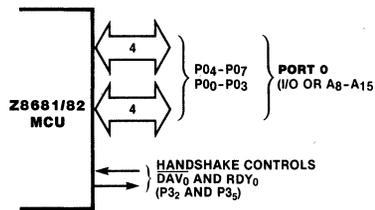

Figure 9. Port 0
**Port 0\*** can be programmed as a nibble I/O port, or as an address port for interfacing external memory (Figure 9). When used as an I/O port, Port 0 can be placed under handshake control. In this configuration, Port 3 lines  $P3_2$  and  $P3_5$  are used as the handshake controls  $DAV_0$  and  $RDY_0$ . Handshake signal assignment is dictated by the I/O direction of the upper nibble  $PO_4$ - $PO_7$ .